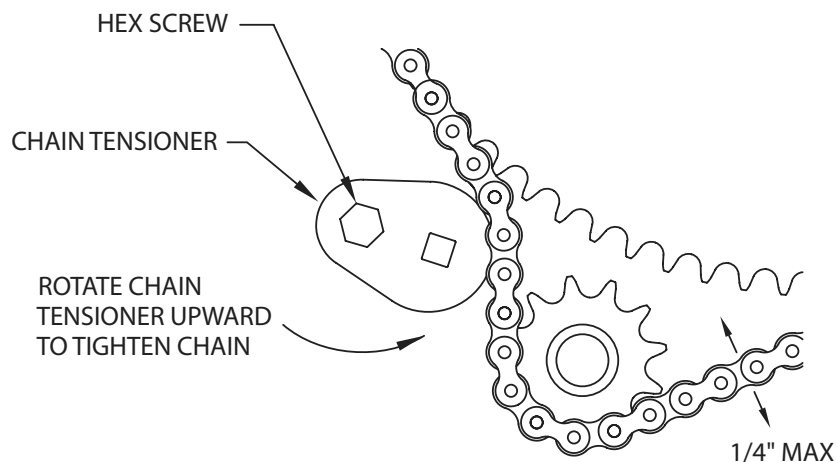

Figure 31
- To adjust, loosen hex screw with $\frac{3}{4}$ " wrench and rotate chain tensioner toward chain as shown until chain moves no more than a total of $\frac{1}{4}$ ". See Figure 31 below.